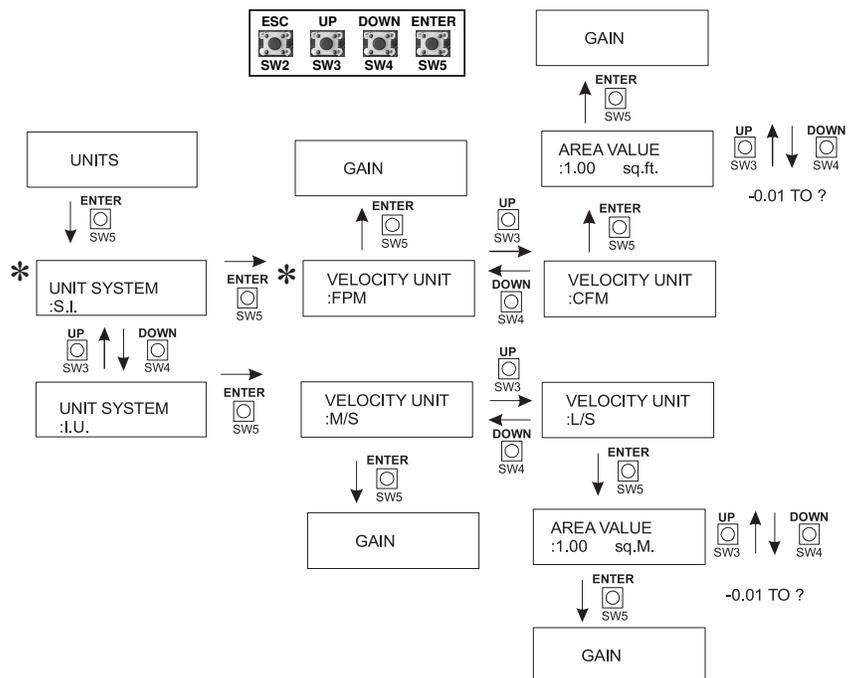

Figure 15: Units Submenu
- Figure 15 UNIT SYSTEM, VELOCITY UNIT